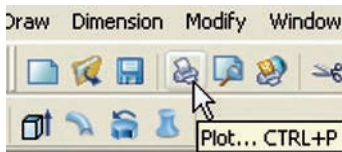
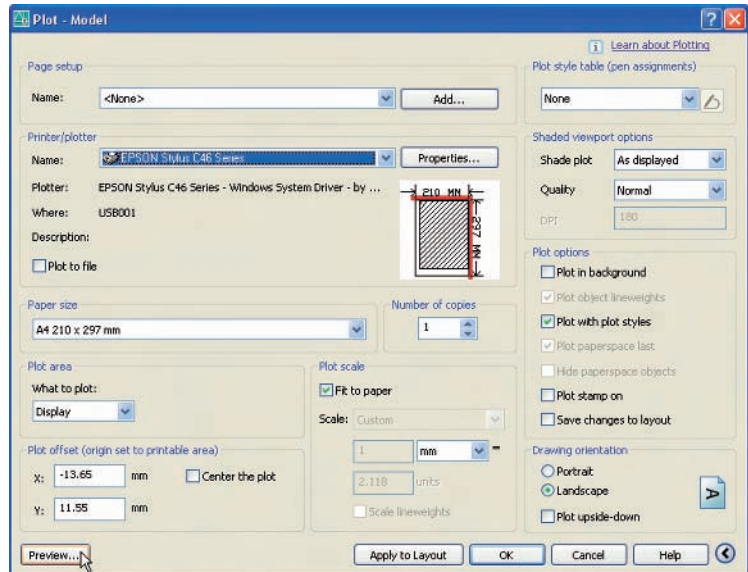

Fig. A.5 The **Plot** tool icon in the **Standard New** toolbar
Fig. A.6 The **Plot** dialog
1. Either select **Plot . . .** with a *click* on its tool icon in the **Standard New** toolbar (Fig. A.5) or from the **File** drop-down menu. The **Plot** dialog appears (Fig. A.6).
2. There are two parts in the **Plot** dialog. Fig. A.6 shows both the parts. A *click* on the arrow at the bottom right-hand corner of the dialog closes to reveal only the left-hand part and vice versa.